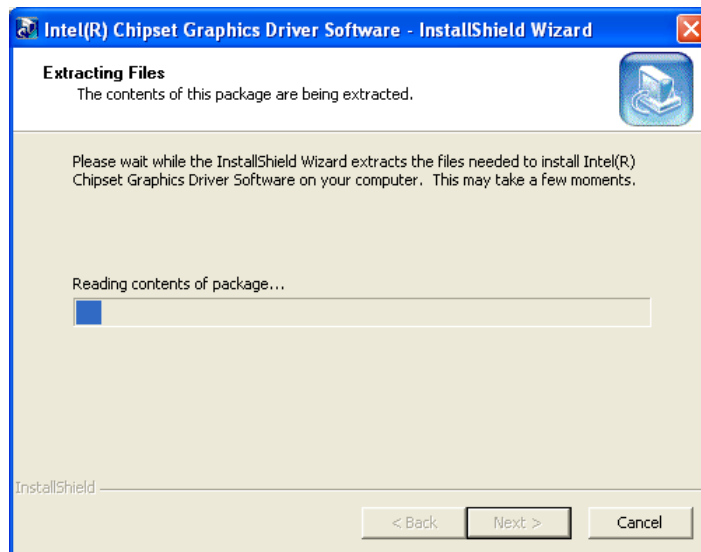

Figure 7-9: VGA Driver Setup Files Extracted
Step 5: The installation files are extracted. See **Figure 7-9**.